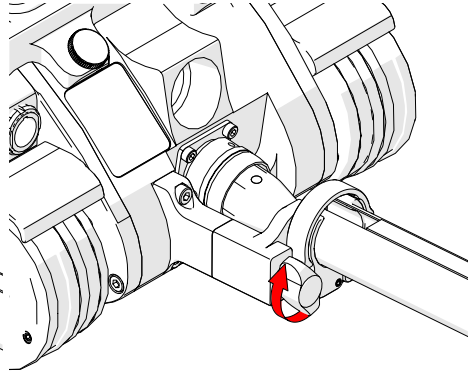

Fig. 202 - Tighten wing knob
2. Tighten the cable management clamp wing knob (*Fig. 202*).